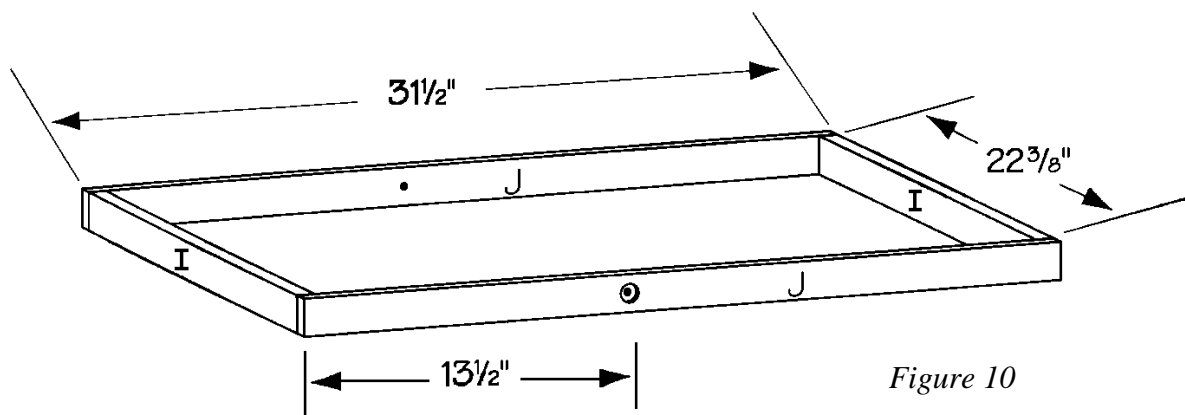

Figure 10
- Cut two short back supports (I) from 1 x 3 pine, each measuring 22-3/8" long.
- Cut two long back supports (J) from 1 x 2 pine, each measuring 31-1/2" long.
- Measure 13-1/2" from one end of each long back support (J) and center a mark on the wide face. Drill a 1 3/4" countersink 1/4" deep. Then drill a 3/8" hole through the back support (J), as shown in *Figure 10*.
- Place the two long back supports (J) on a flat surface, parallel to each other and $22\text{-}\frac{3}{8}$ " apart. Fit the two short back supports (I) between the two long back supports (K), as shown in *Figure 10*. Nail through the long back supports (J) into the ends of the short back supports (I), using two $1\text{-}\frac{1}{2}$ "-long nails on each joint.
- Cut eight back slats (K) from 1 x 4 pine, each measuring $23\text{-}\frac{7}{8}$ " long.
- Fit the back slats (K) over the assembled frame, spacing the $\frac{1}{2}$ " apart, in the same manner that you used to attach the 11 slats (G). Nail through the end of the back slats (K) into the edges of the two long inner supports. Use two $1\text{-}\frac{1}{2}$ "-long nails on each joint.